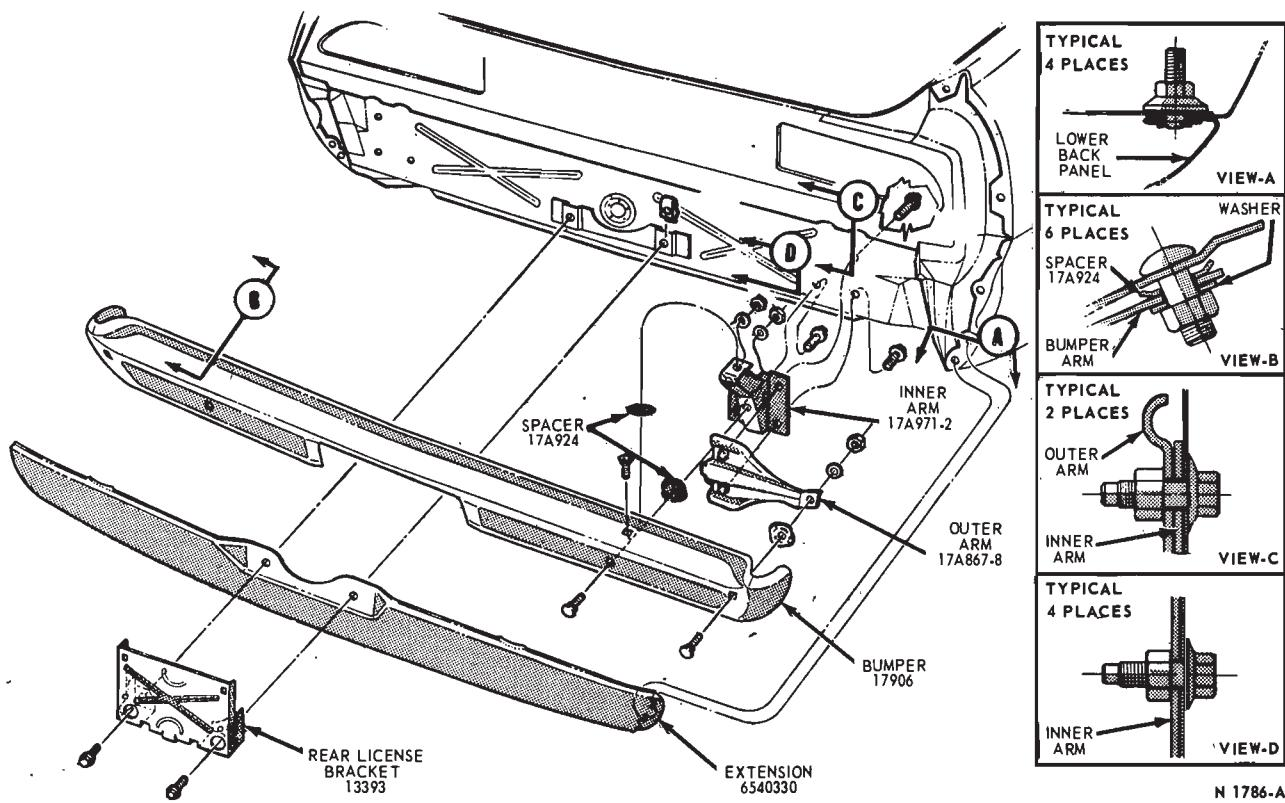

FIG. 11—Fairlane Rear Bumper Except Models 66 and 71
3. Remove the two bolts on each side which retain the bumper arms to the body (Figs. 11 and 12). Remove the bumper to a bench.